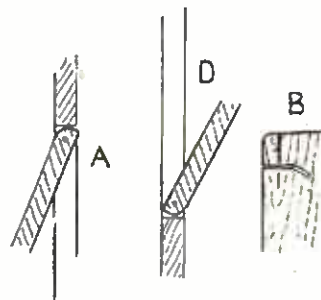

Fig. 3
There is great scope in the designing of these articles, for personal ingenuity and many readers will doubtless be able to work out patterns for themselves. A part design is given in Fig. 3 which shows a suggestion for a letter rack. It is drawn over 1 in. squares, and the portion indicated by (C) can be repeated as many times as desired to complete the rack. Three or four repeats will probably be sufficient.